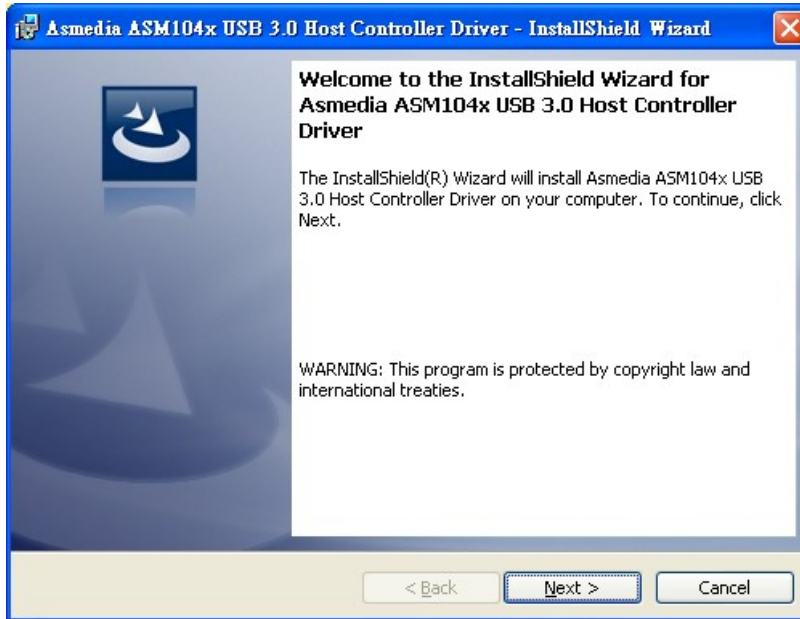

Figure 6-28: USB 3.0 Driver Welcome Screen
- Step 4:** A **Welcome Screen** appears (**Figure 6-28**).